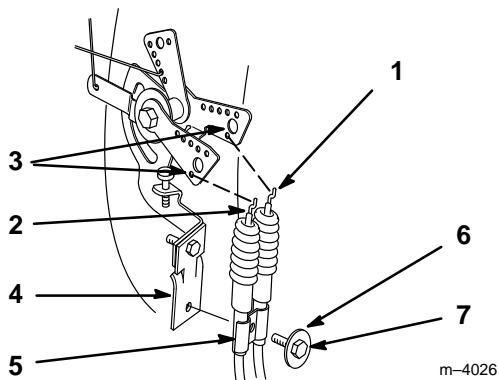

Figure 3
10. Hook cable Z ends into lower holes of engine controls as shown (Fig. 3).
11. Place cables against adapter and secure with previously removed cable clamp, washer and screw (Fig. 3).
13. Loosen clamp screw and push the cables up, at the adapter, until engine controls are against their stops (Fig. 3).
14. Tighten cable clamp mounting screw securely (Fig. 3).